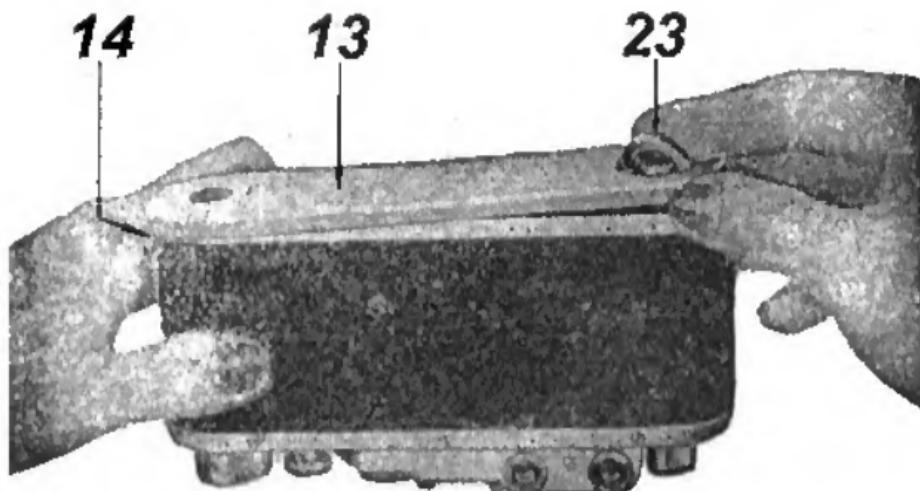

Fig. 2
23. Baseplate Locking Key (see fig 2)).
Take the camera as shown in fig. 2. Lift the key of the lock 23 and twist it counter-clockwise by half a turn. The arrow on the key will then point to «OTKРыто» = "opened"